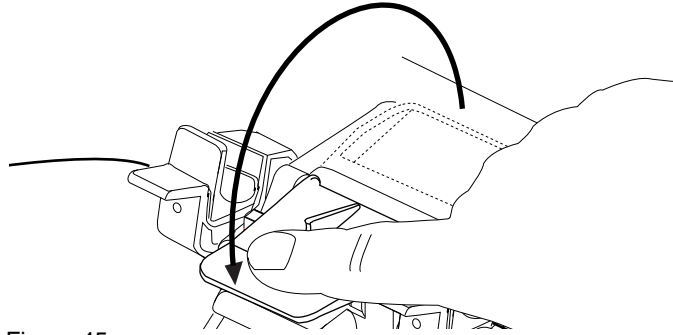

Figure 45
- d) Seal the Splice Pak protector by swinging down the fixtures' pressure arm (Figure 45).